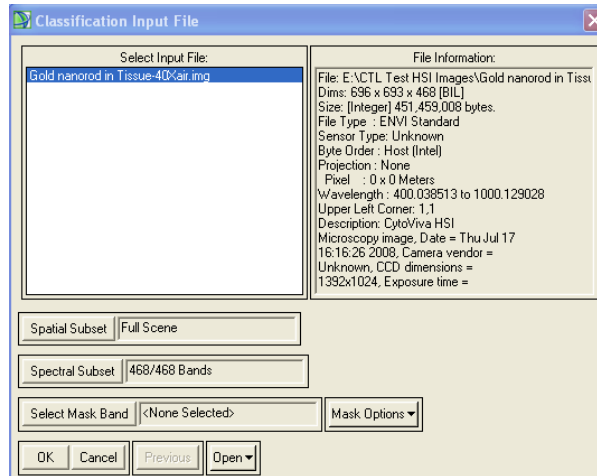

Figure 10. Selecting the input file for classification
- c. Then select the file in the list to use as the input image. For this exercise select **Gold nanorod in Tissue - 40Xair.img** (see Figure 10)